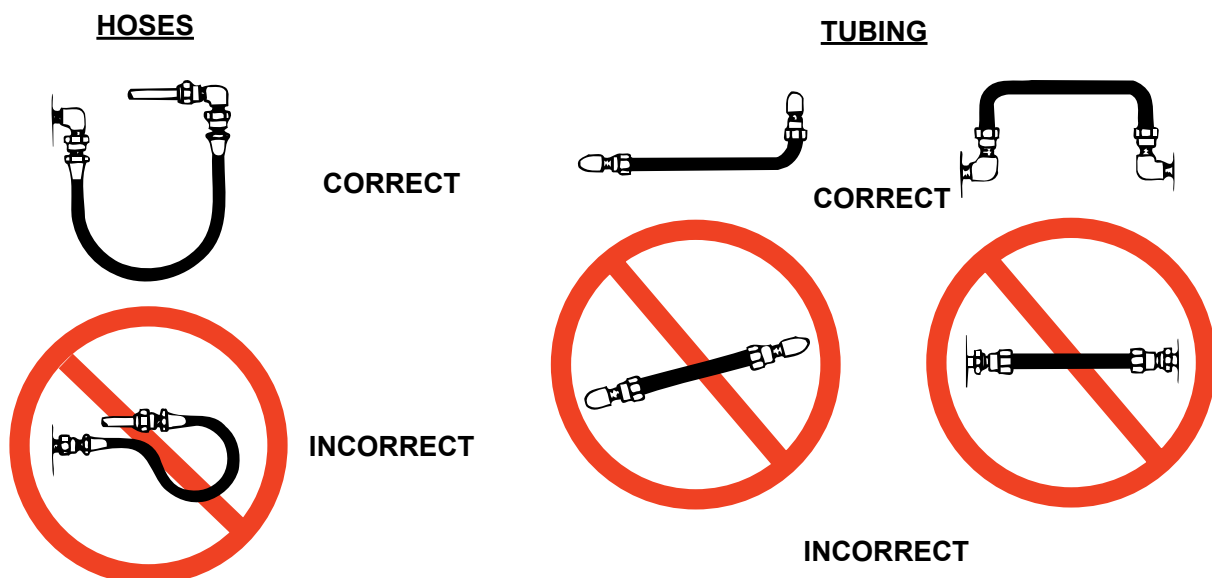

Fig. 1. Hoses and Tubing Connections
- Avoid straight line tubing connections in short runs (See Figure 1). Straight line runs do not provide for expansion and contraction due to pressure and/or temperature changes.